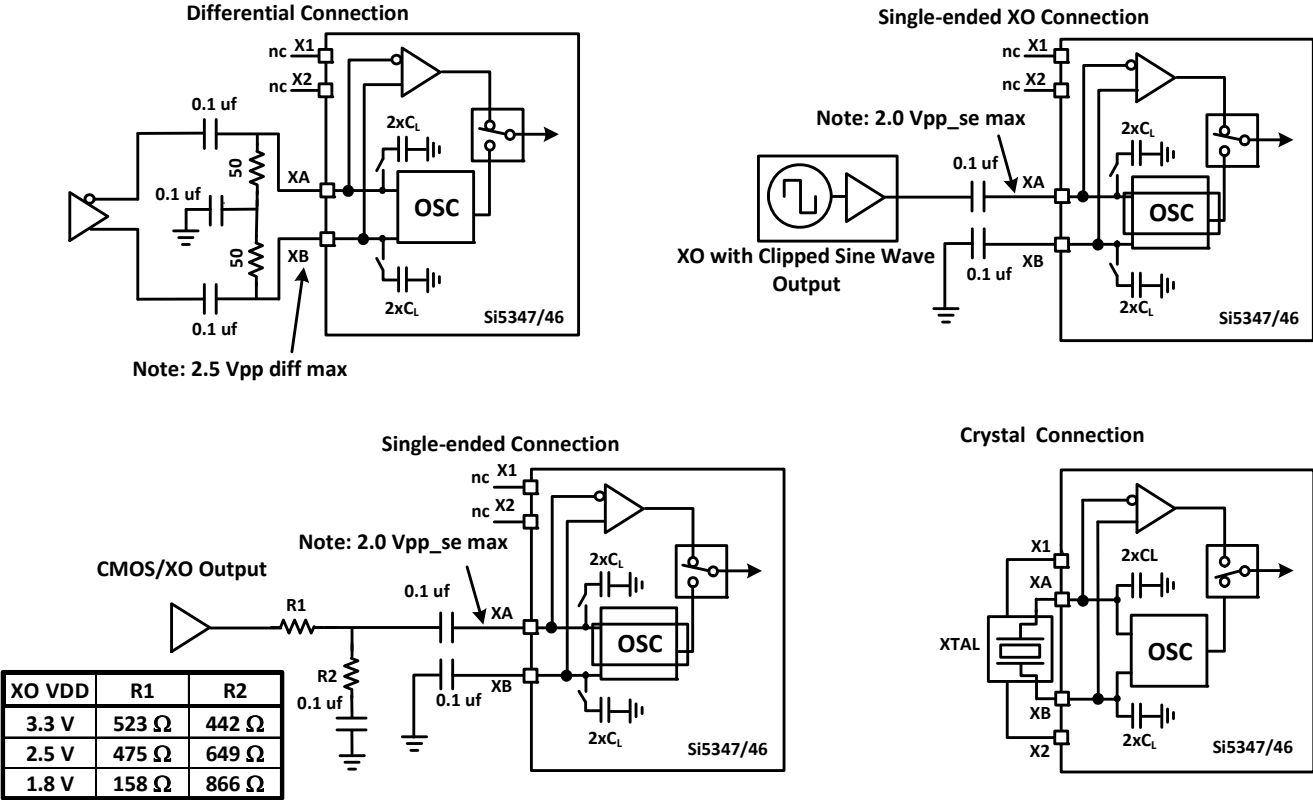

Figure 33. XAXB Crystal Resonator and External Reference Clock Connection Options
An external standard non-pullable crystal (XTAL) is used in combination with the internal oscillator (OSC) to produce an ultra low jitter reference clock for the DSPLL and for providing a stable reference for the free-run and holdover modes. A simplified diagram is shown in Figure 33. The device includes internal XTAL loading capacitors which eliminates the need for external capacitors and also has the benefit of reduced noise coupling from external sources. Although the device includes built-in XTAL load capacitors (CL) of 8 pF, crystals with load capacitances up to 18 pF can also be accommodated. Frequency offsets due to CL mismatch can be adjusted using the frequency adjustment feature which allows frequency adjustments of ±200 ppm. The recommended crystal suppliers are listed in Table 33 with PCB layout recommendations for the crystal to ensure optimum jitter performance in "11. Crystal and Device Circuit Layout Recommendations" on page 63.
The Si5347/46 accepts a clipped sine wave, CMOS, or differential reference clock on the XA/XB interface. Most clipped sine wave and CMOS TCXOs have insufficient drive strength to drive a 100 Ω or 50 Ω load. For this reason, place the TCXO as close to the Si5347/46 as possible to minimize PCB trace length. In addition, ensure that both the Si5347/46 and the TCXO are both connected directly to the ground plane. Figure 33 shows the recommended method of connecting a clipped sine wave TCXO to the Si5347/46. Because the Si5347/46 provides dc bias at the XA and XB pins, the ~800 mV peak-peak swing can be input directly into the XA interface of the Si5347/46 once it has been ac-coupled. Because the signal is single-ended, the XB input is ac-coupled to ground. Figure 33 illustrates the recommended method of connecting a CMOS rail-to-rail output to the XA/XB inputs of the Si5347/46. The resistor network attenuates the rail-to-rail output swing to ensure that the maximum input voltage swing at the XA pin is less than the data sheet specification. The signal is ac-coupled before connecting it to the Si5347/46 XA input. Again, since the signal is single-ended, the XB input should be ac-coupled to ground.